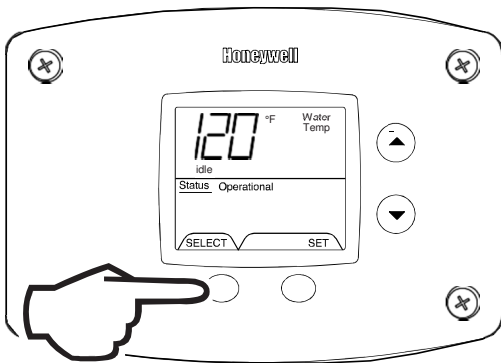

Fig. 45
1. In Service Mode, Press the 'Select' button until 'Water Temp' is displayed in the upper right section of the water heater display. For water heaters using two temperature sensors in the tank, this will be the average reading between the two sensors. For water heaters using a single sensor, this is the reading for the sensor (Fig. 45).